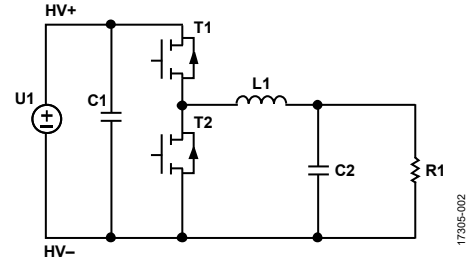

Figure 2. Electrical Setup of the System Test Circuit
The electrical setup of the system test circuit is shown in Figure 2. A dc voltage is applied to the inputs across the full half bridge where decoupling capacitors of 900  $\mu\text{F}$  (C1) are added to the input stage. The output stage is an inductor capacitor (LC) filter stage of 200  $\mu\text{H}$  (L1) and 50  $\mu\text{F}$  (C2), filtering the output into the load (R1) of 2  $\Omega$  to 30  $\Omega$ . Table 1 details the test setup power components. U1 is the DC supply for HV+ and HV- and T1 and T2 are a single IGBT module.